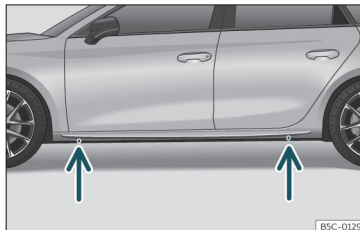

Fig. 38 Jack position points.
- Find the support point on the strut (sunken area) closest to the wheel to be changed >>> Fig. 38.